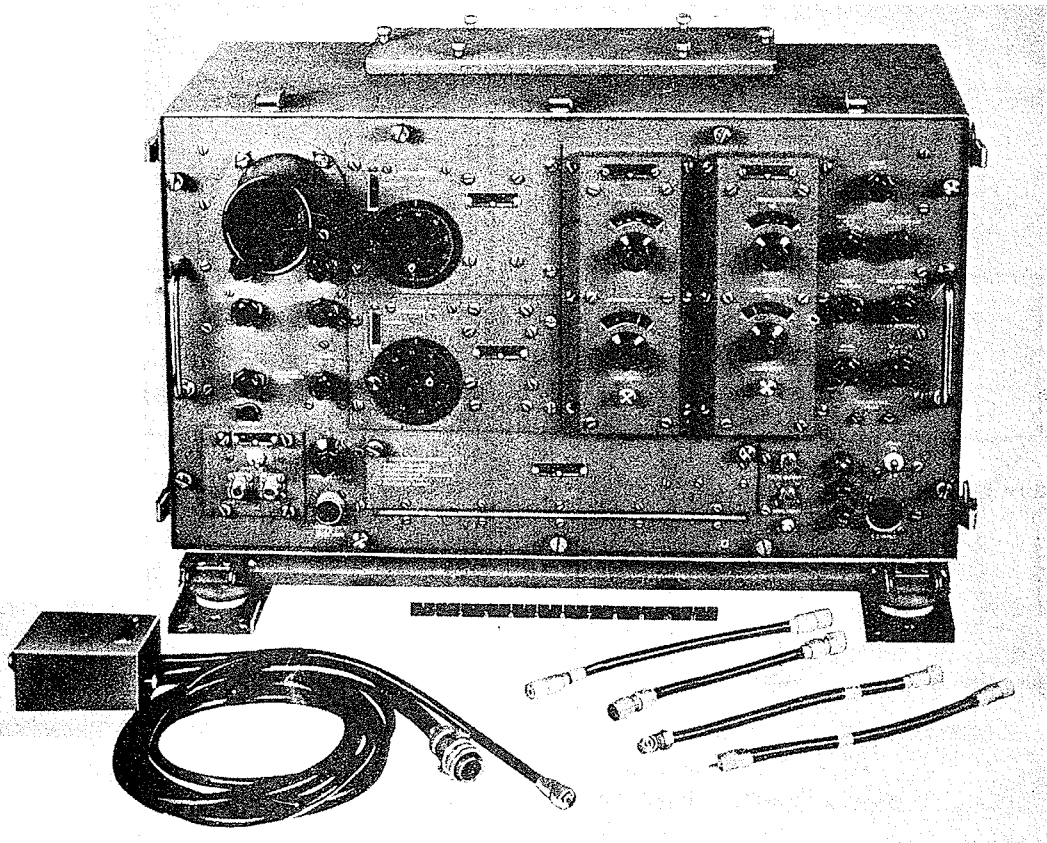

Figure 6-18B. Radar Test Equipment AN/UPM-1
(2) Remove the console rack from the dust cover. (See fig. 6-18B.)
(3) Replace resistors R-101, R-102 and R-103 as follows: